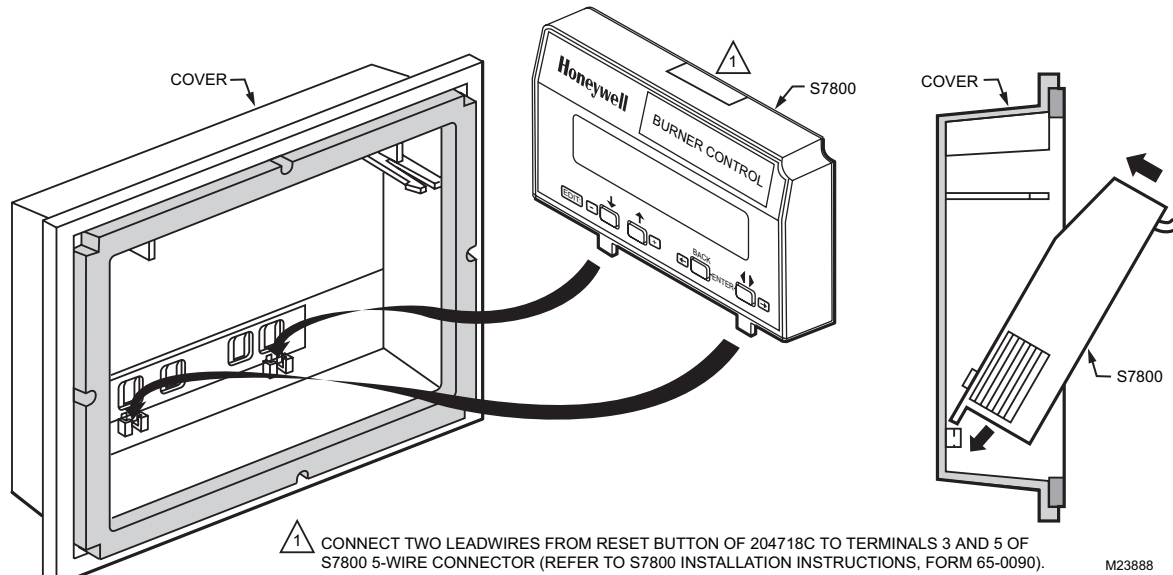

Fig. 1. Installing S7800 Keyboard Display Module in 50023821-001, -002 Cover Assembly.
2. Place the tabs on the bottom of the S7800 Keyboard Display Module into the slots below the scroll panel on the cover. See Fig. 1.